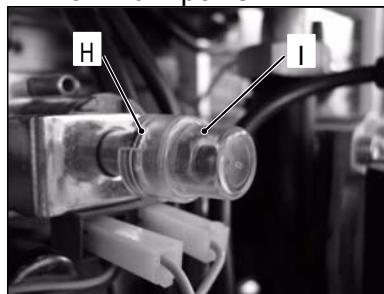

Figure 15.7
- Remove the protection cap I (Fig. 15.7) from the mechanical pressure adjustment components levering with a flat screwdriver in the slots H.